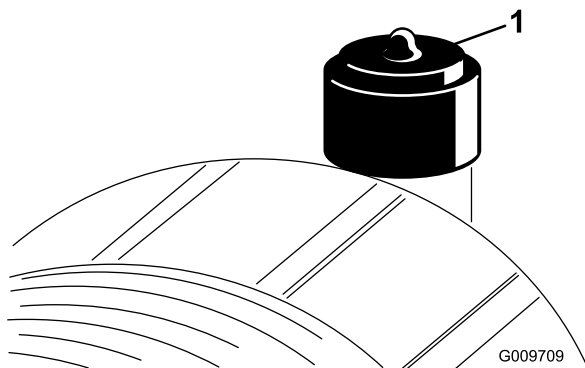

Figure 47
Service the air-cleaner filter only when the service indicator requires it (Figure 47). Changing the air filter before it is necessary only increases the chance of dirt entering the engine when you remove the filter.
2. Reset the indicator (Figure 47) if it shows red.